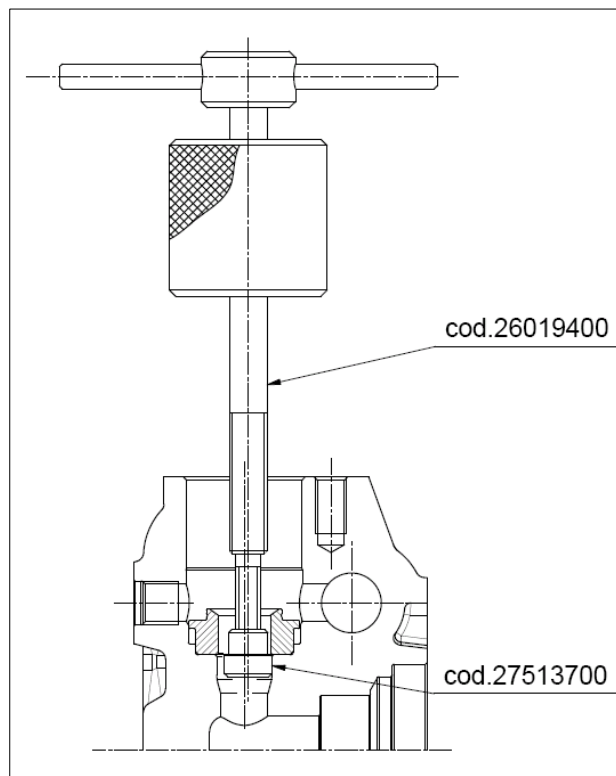

Fig.16/b
- Unscrew the seven M12x35 valve cover fixing screws and remove the covers (fig. 16, 16/a)
- Remove the valve plugs by means of an extractor hammer (code 26019400, fig. 16).
- Remove the valve units using a gripper (fig. 16/a).
- use the extractor hammer used for the valve plugs (code 26019400 combined with the tool code 27513700); as shown in fig. 16/b.